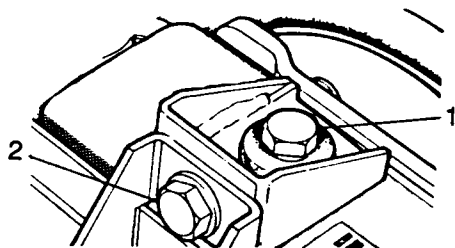

Fig E4.2
- (1) Refer to Fig E4.2. Remove the two bolts, nuts and washers (1) and (2) on each bracket. (The other bracket is at the other side of the radiator).
- (2) Lift the cowl upwards, keeping the lower part clear of the fan blades.